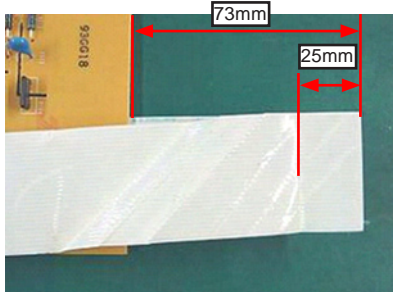

Fig 4.3.42
2. Do not apply excessive pressure to the power switch ③.
4. See Fig 4.3.42-47 for the routing of the FFC for the high-voltage board, and Fig 4.3.42-47 for folding the FFC.